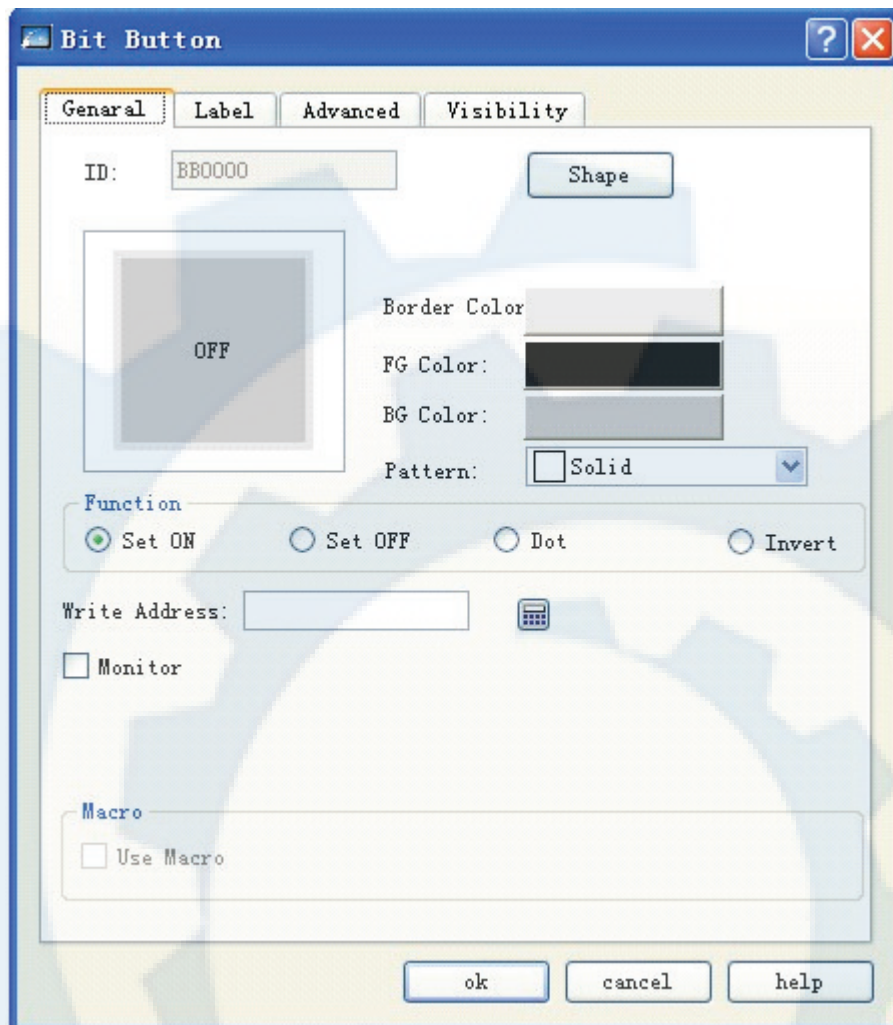

Figure 4-73: Bit button dialog
1. Click Bit Button icon **B** in the tool bar, and then a dialog will pop up for setting of bit button properties. See Figure 4-73.